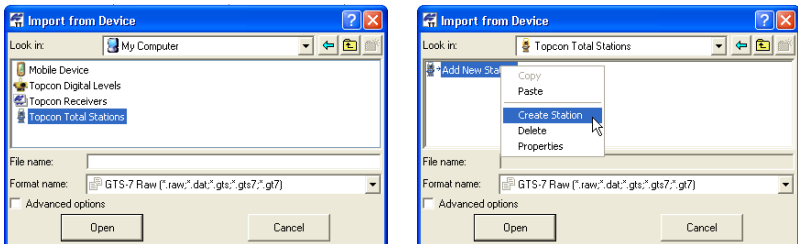

Figure 3-40. Creating a New Station
3. To add a device, right-click **Add New Station** and click **Create Station** (Figure 3-40).